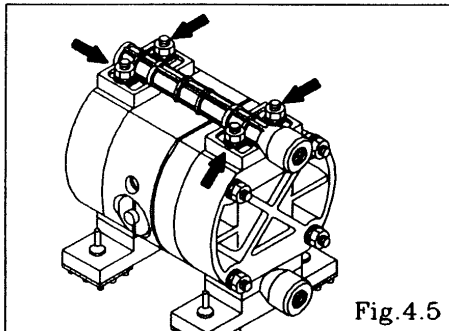

Fig. 4.5
- Remove the 4 retainer nuts from the out manifold, and remove the out manifold. [Fig.4.5]